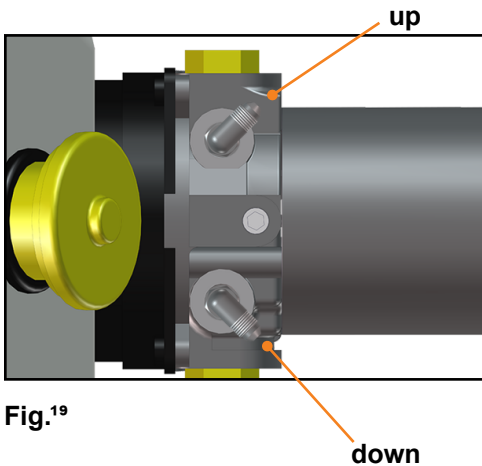

Fig. 19
1. The power unit mounting location was determined when the trailer was first inspected. Mount the power unit to the back or side wall of the front compartment in the position you previously determined using six (6) self tapping screws.
2. Install hose fittings into the power unit (**Fig.19**). The two ports are marked DN and UP. DN = Extend. UP = Retract.